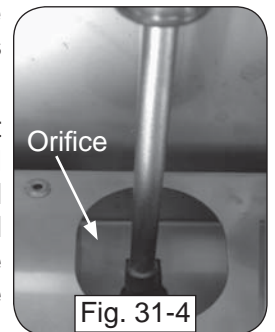

Fig. 31-4
5. Use a $\frac{3}{8}$ " hex nut driver to remove the exposed orifice (Fig. 31-4) and replace it with the correct orifice for the new gas. (See Table 1 at the beginning of this document for orifice sizes.)